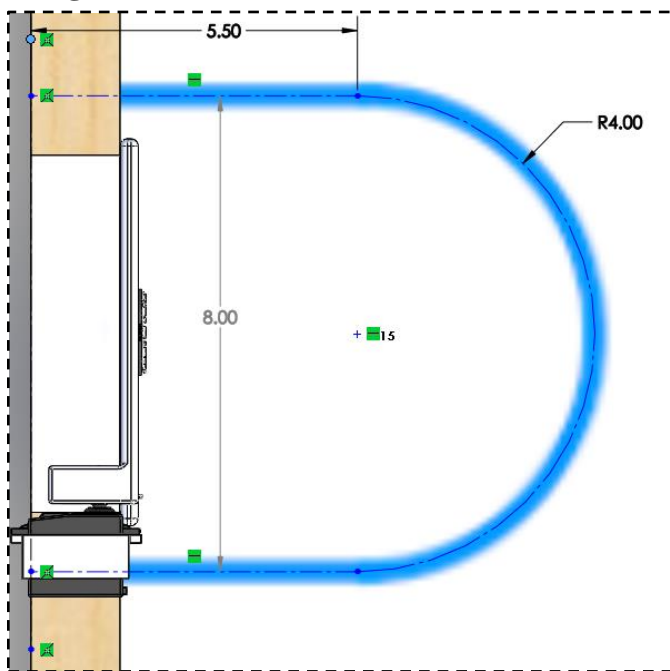
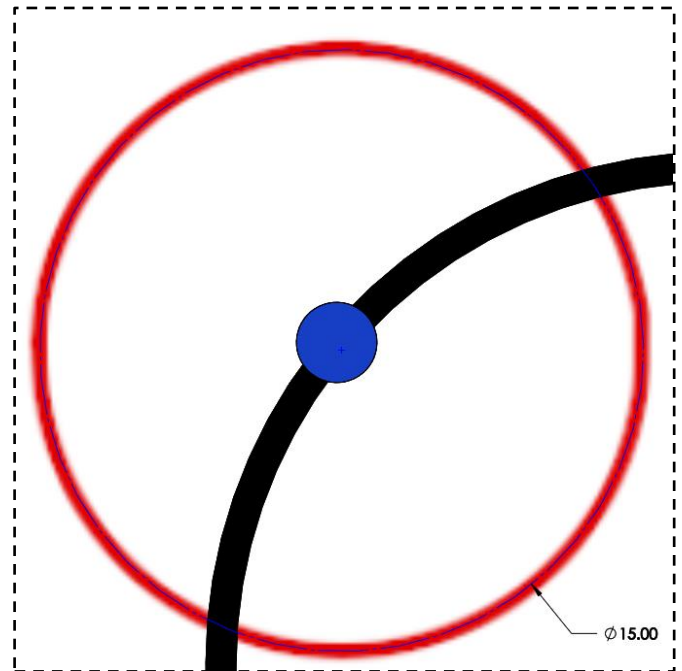

Figure 3: Goalie Crease dimensions
Figure 4: All 5 Circle dimensions 15'' Diameter
- The crease (**Figure 3**) and all 5 circles (**Figure 4**) are approximately 0.5'' thick and the three stripes in the center are approximately 1'' thick